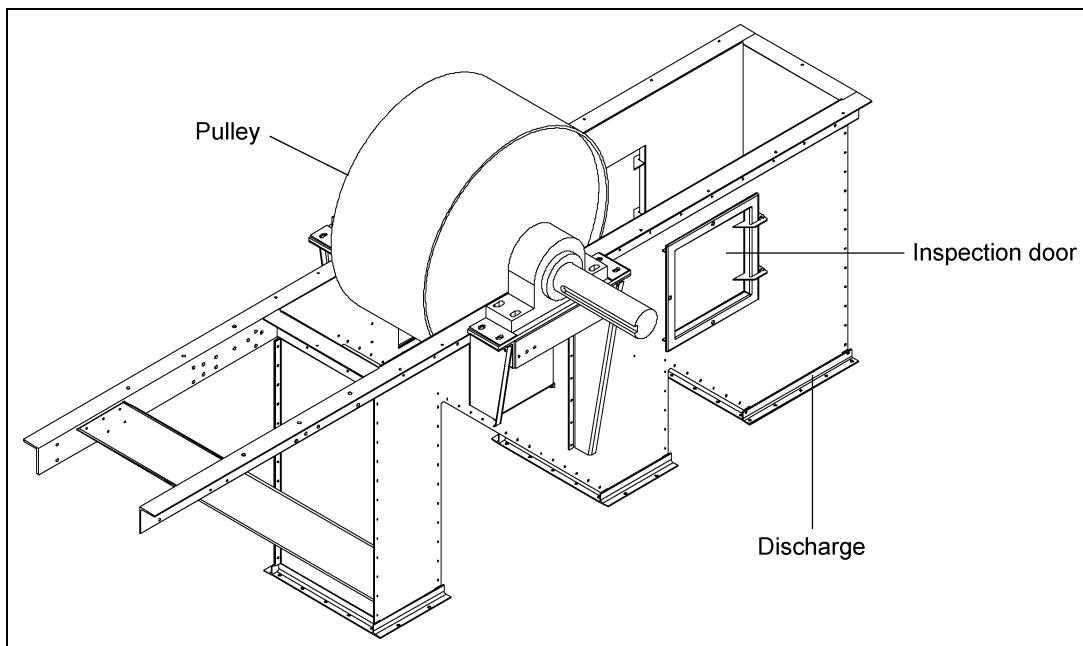

Figure 8A Lower Head Section
3. Inspect all parts for damage and to ensure that all hardware is secure prior to proceeding with installation. (See Figure 8A.)